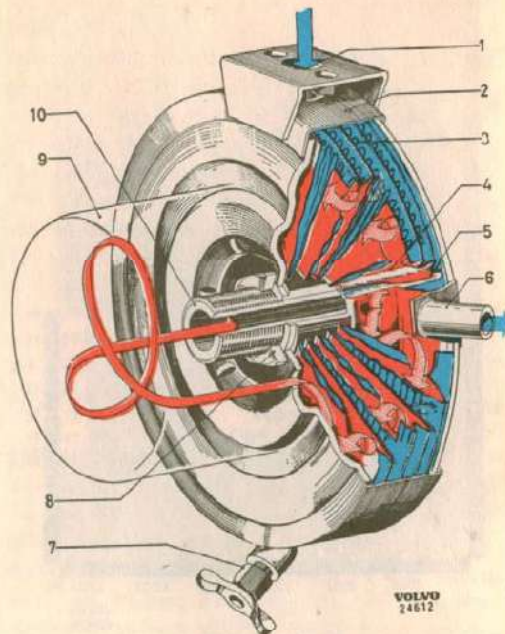

Fig. 1-6. Oil cooler
The oil cooler (Fig. 1-6) is fitted between the oil cleaner and the cylinder block and consists of an inner part for the oil which is surrounded by a cooling jacket. The engine cooling water is taken through the cooling jacket. When the oil passes through the cooler on its way to the oil cleaner, part of the heat from the oil is conducted away by the cooling water. The cooling water cannot go the nearest way from the inlet (1) to the outlet (6) but is forced to circulate round the oil cooler by means of the stop plates (5). The oil is pressed through the pairs of disks one after the other due to the stop plates (4) and then passes out finally to the oil cleaner.
(see also 10, Fig. 1-6)